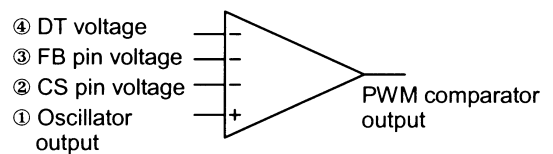
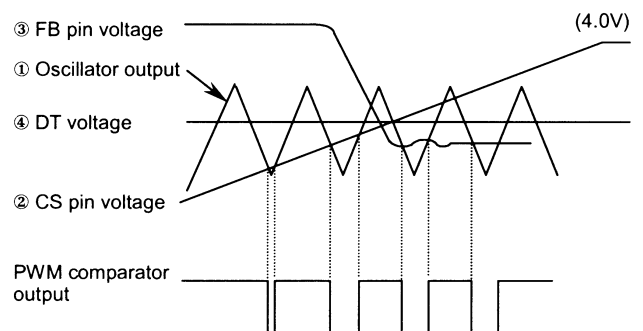

Fig. 4 PWM comparator
Fig. 5 PWM comparator timing chart
The PWM comparator has four inputs as shown in Figure 4. Oscillator output ① is compared with CS pin voltage ②, FB pin voltage ③, and DT voltage ④. The lowest of three inputs ②, ③, and ④ has priority and is compared with output ①. While the voltage is lower than the oscillator output, the comparator output is high. While the voltage is higher than the oscillator output, the PWM comparator output is low (see Figure 5). The IC OUT pin voltage is high while the PWM comparator output is low.